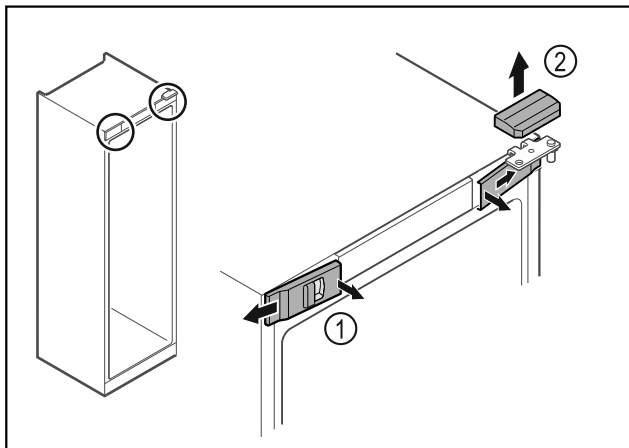

Fig. 7\*
- ▶ Unlatch the front covers Fig. 7 (1) on the inside and remove them sideways.\*
- ▶ Lift off the upper cover Fig. 7 (2).\*